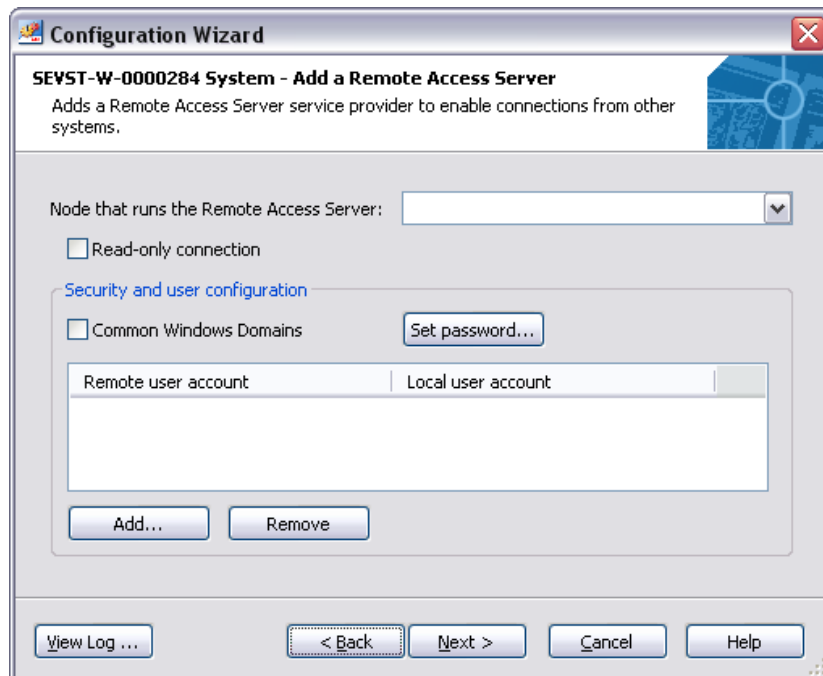

Figure 8. Add Remote Access Server
The Add a Remote Access Server dialog box is displayed, see Figure 8.
3. Click **Next**, see Figure 8 and then in new screen click **Finish**.